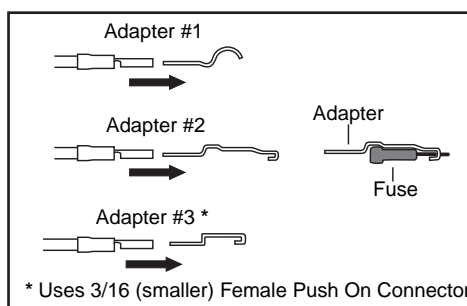

fig. 15
- c. Connection to the fuse terminal will depend on what type of fuse your vehicle uses. If your vehicle uses the barrel type fuse, use adapter #1. If you have the standard spade type fuses, use adapter #2. Many late model vehicles use a smaller spade type fuse which requires adapter #3 (fig. 15). If adapter #1 or #2 are used, it will be necessary to cut off the ¼” female connector attached to the power wire and crimp the smaller 3/16” female connector supplied with this kit.